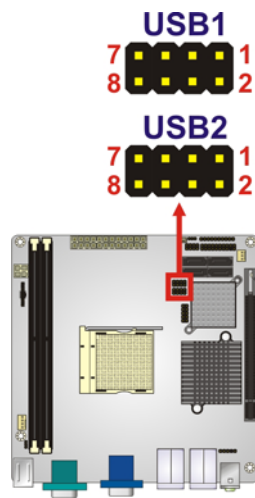

Figure 3-13: USB Connector Pinout Locations
- CN Location:** See Figure 3-13